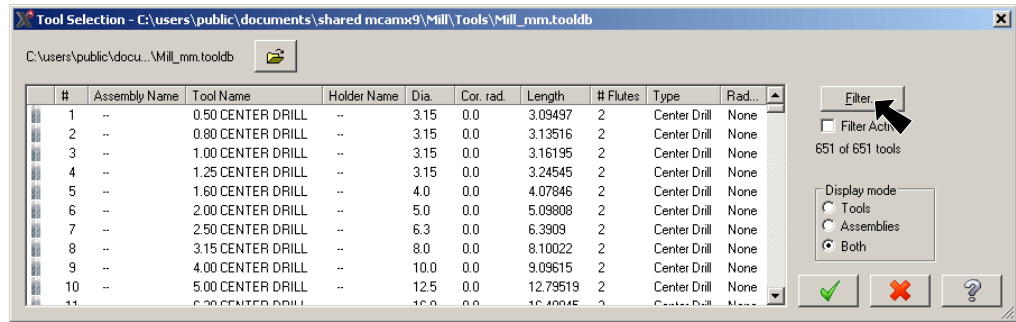

Fig. 13
Step 14. Click **Filter** button, **Fig. 13.**